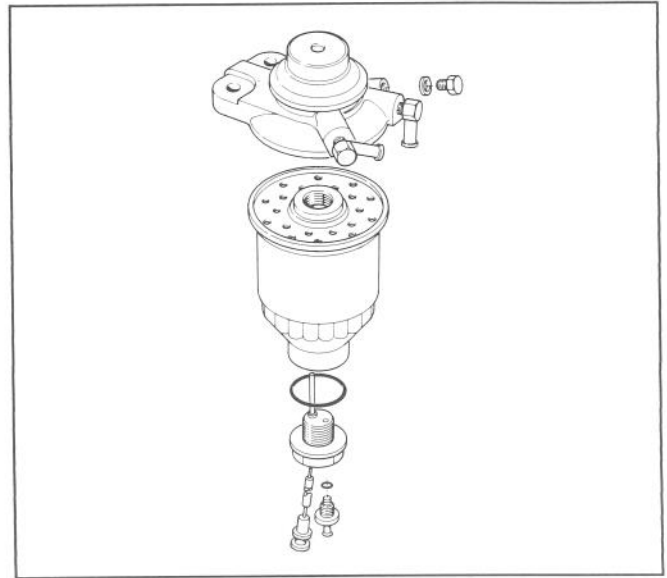

Figure 37
filter (Fig. 37). Install drain plug and O-ring. Push wire connectors together.
2. Replacing Filter – Replace filter if fuel flow is restricted, after every 500 hours of operation, or annually, whichever comes first. To replace, disconnect wire connectors and unscrew drain outlet and O-ring (Fig. 37). Unscrew filter and replace with new Toro